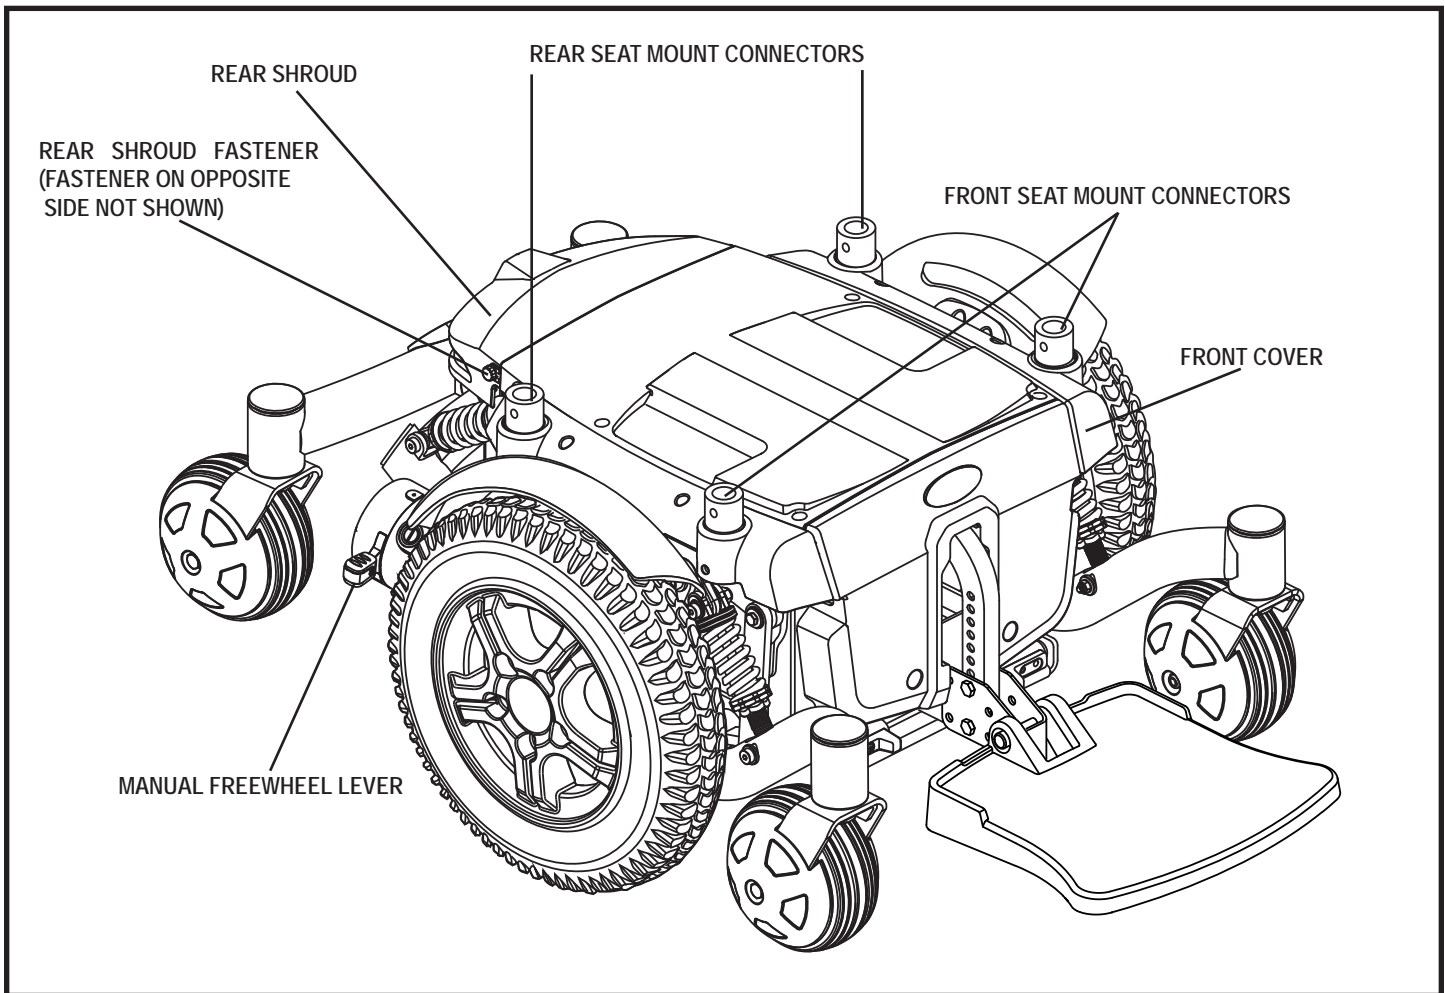

Figure 2. The Quantum 600 Sport Power Base
5. Loosen the rear shroud fasteners and remove the rear shroud. **See figure 2.**
7. Replace the rear shroud and tighten the rear shroud fasteners. **See figure 2.**
3. Loosen the rear shroud fasteners and remove the rear shroud. **See figure 2.**